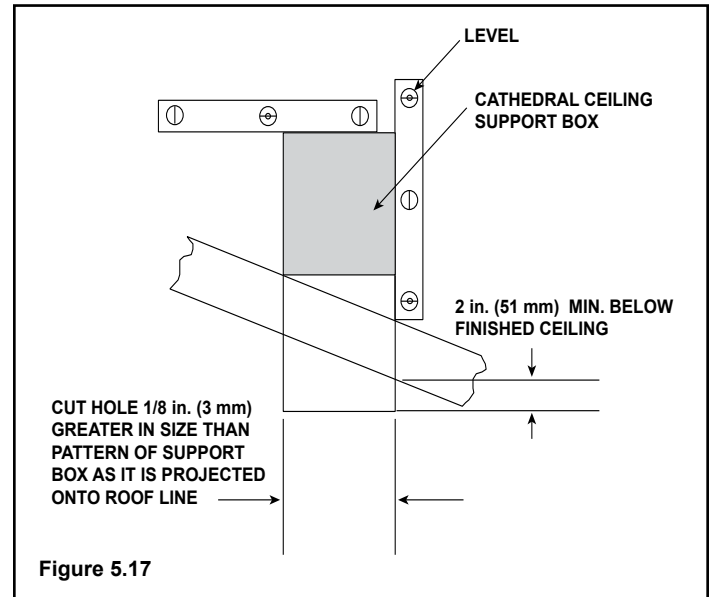

Figure 5.17
3. Lower the support box through the hole in the roof until the bottom of the support box protrudes at least 2 in. (51 mm) below the ceiling (Figure 5.17). Align the support box both vertically and horizontally with a level. Temporarily tack the support box in place through the inside walls and into the roof sheathing.